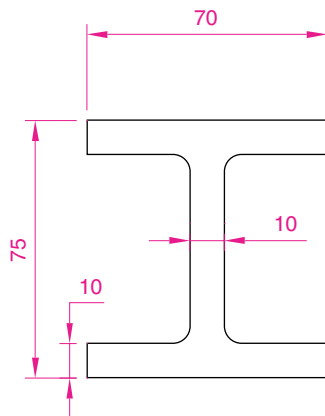

Fig. 13.36 Example **Sweep** – the outline to be swept
1. Construct the pline outline in Fig. 13.36 in the **3D Views/Top** view.